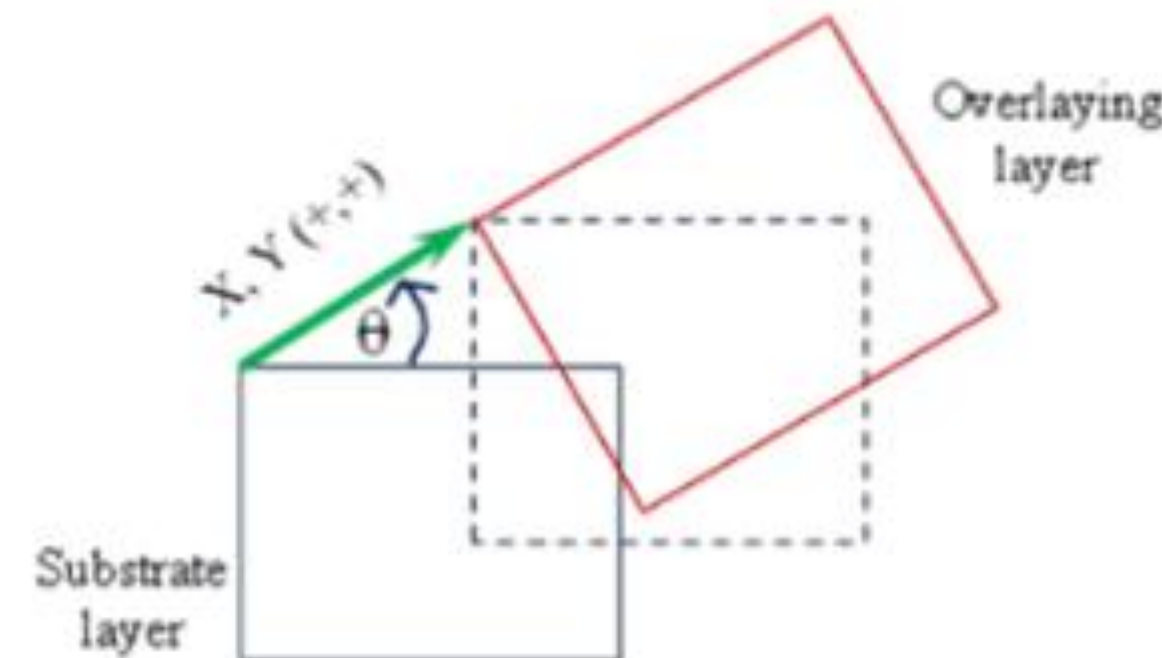

Figure 3
5.2.3 *offset direction* — overlay vectors should be decomposed into orthogonal components,  $X$  and  $Y$ , along the directions of the stepper stage motion, and a rotation angle  $\theta$  calculated by  $X$  and  $Y$  offset values.  $X$  Direction is positive to the right,  $Y$  Direction is positive to the up, Theta direction is positive counter clockwise, as indicated in the following figure. (See Figure 3.)